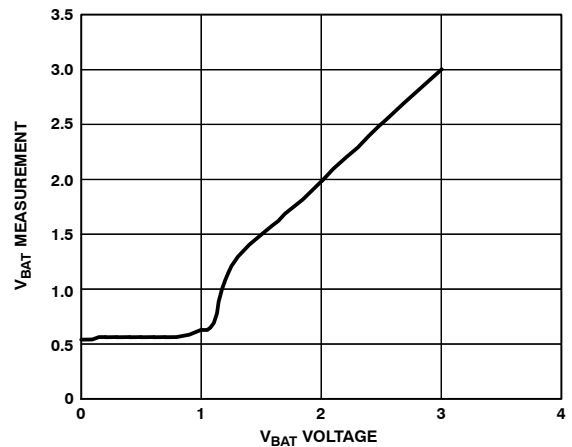

Figure 14. V_{BAT} Measurement vs. Voltage
- Total unadjusted error (TUE) includes offset, gain, and linearity errors of the ADC, multiplexer, and on-chip input attenuators. V_{BAT} is accurate only for V_{BAT} voltages greater than 1.5 V (see Figure 14).